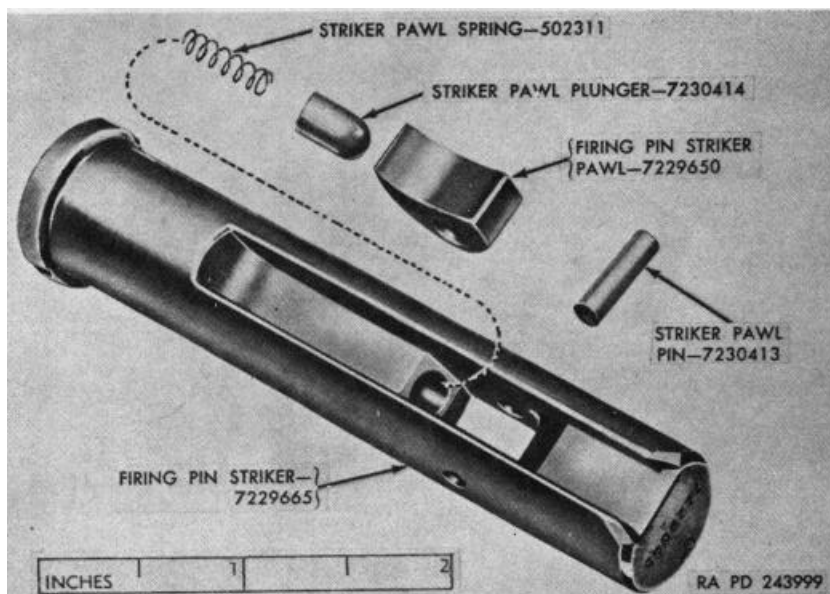

Figure 15. Firing pin striker and related parts.
e. Lift out firing pin striker (H). Drive out striker pawl pin and remove firing pin striker pawl, striker pawl plunger, and striker pawl spring (fig. 15).
f. Depress the selector plunger (P), raise housing cover (D), and remove firing selector (Q). Withdraw the firing lever (A) slightly over one-eighth of an inch to disengage the firing lever spring (M), rotate slightly and push the lever in again to eject the spring and withdraw the firing lever. Pry firing lever spring out of lever spring sleeve (N), using the firing lever.
g. Shake out the striker pawl tripper (B).
h. Drive out cover pin (C) and remove cover (D).
i. Chip off staking around selector plunger (P) with a small rod through other side of housing (S); drive out plunger (P) and spring (R).
- b. Assemble firing pin striker unit as outlined in (1) and (2) below.
- (1) Insert striker pawl spring and striker pawl plunger in their seat in the firing pin striker (fig. 15).
- (2) While compressing the spring, insert firing pin striker pawl, higher side against plunger, and secure with striker pawl pin (fig. 15).
- c. Slide the firing spring stop (J) over the firing pin striker (H) and follow with the firing spring (K).
- d. Insert the selector plunger spring (R) and selector plunger (P) into the middle side hole of the firing mechanism housing (S) and peen lightly.
- e. Press in the selector plunger (P) and press housing cover (D) into position so as to permit insertion of cover pin (C) from plunger side of firing mechanism housing (S). With cover pin in position, leave the cover open.
- f. Assemble firing lever spring (M) in the lever spring sleeve (N), loading the spring about one-half turn and latching the shorter end with the notch in end of sleeve. Push this unit into the firing mechanism housing (S).
- g. Place striker pawl tripper (B) in slot in top of firing mechanism housing, with flat side of long end facing base cap (G). Insert firing lever (A) from left side of housing so that it mates with opening in striker pawl tripper. With one finger over the lever spring sleeve (N), press in the firing lever (A) until the slot on its end engages the short leg of the firing lever spring (M).
- h. Insert firing selector (Q) in the firing mechanism housing and close the housing cover (D).
- i. Slide firing pin striker (H) with assembled parts into the firing mechanism housing (S) by aligning grooved lines on striker and housing.
- j. Screw the firing mechanism housing with assembled parts onto the housing adapter (F) and tighten the setscrew (L).
- k. Set firing selector (Q) for lever fire and check for proper operation.
- l. Holding mortar tube (E) in formed jaws, screw on the base cap and firing mechanism housing, drawing up gastight.